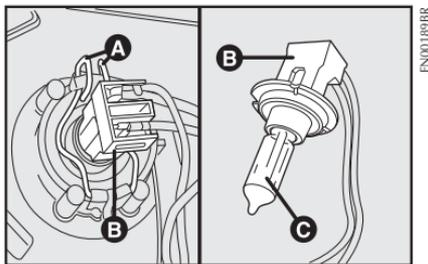

fig. 24
- 2) Desengatar as molas **A-fig. 24**, retirar o conector **B** e remover a lâmpada **C**.